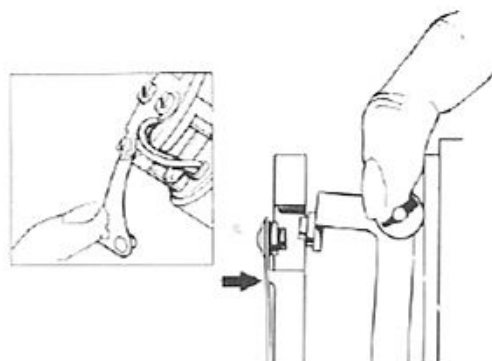

Fig 12. Setting the contact blade to ensure contact with the pedestal ridge.
- 27 Check that when outer rocker is pressed on to the coil housing, the contact blade rests on the narrow rib or ridge which projects slightly above the main face of the pedestal (see Fig. 12). If it does not, slacken the con-